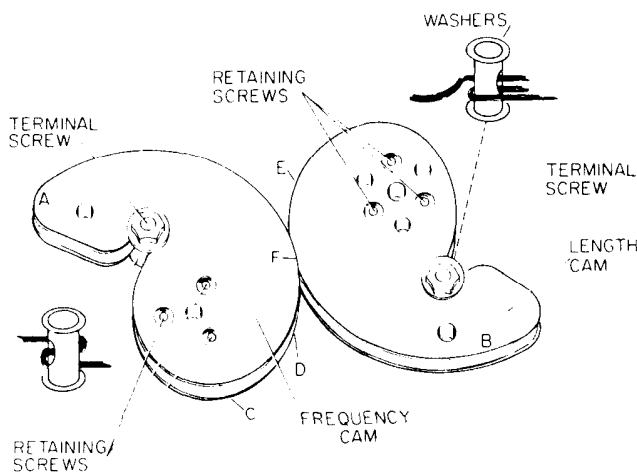

Figure 5-12. Cam Assembly
5-53. If it is necessary to replace cam cable, order it by HP Part No. 08614-299 and description of usage. For easier access to the cams, remove the screws holding the High Voltage circuit board and swing the board out of the way. Use Figures 5-12 and 5-13 as guides and proceed as follows:
- Turn FREQUENCY (MC) to approximately the middle of the frequency band.
- Orient Length Cam to Frequency Cam as shown in Figure 5-12.
k. Slide cable through one terminal screw so that cable is oriented to terminal screw as shown in Figure 5-12 for the Frequency Cam, and install terminal screws on Frequency Cam.
Each cam as shown in Figure 5-12 has two lips along which the cable should travel: one cable MUST travel along the upper lip of both cams and one cable must travel along the lower lip of both cams.
t. Slide cable ends through second terminal screw so that cable is oriented to terminal screw as shown in Figure 5-12 for the Length Cam.